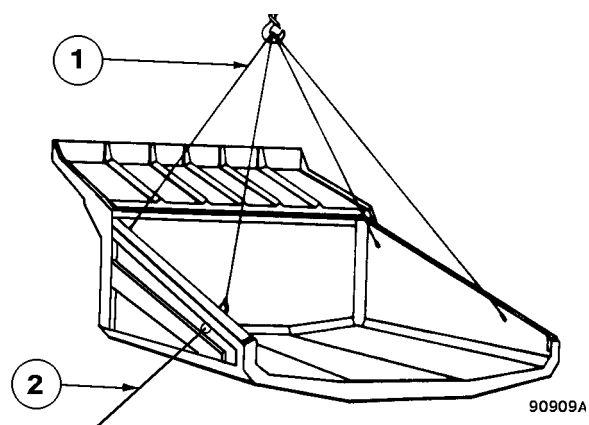

FIGURE 3-2. DUMP BODY REMOVAL
1. Park truck on a hard, level surface and block all the wheels. Connect cables and lifting device to the dump body and take up the slack as shown in Figure 3-2.